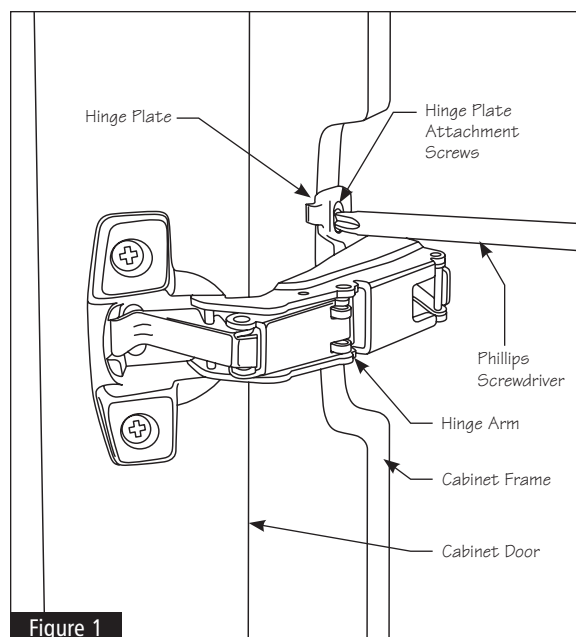

Figure 1
- 1** Remove the door from the cabinet frame by removing the two hinge plate attachment screws from all hinge plates. Lay the door on a clean flat surface. See Figure 1.